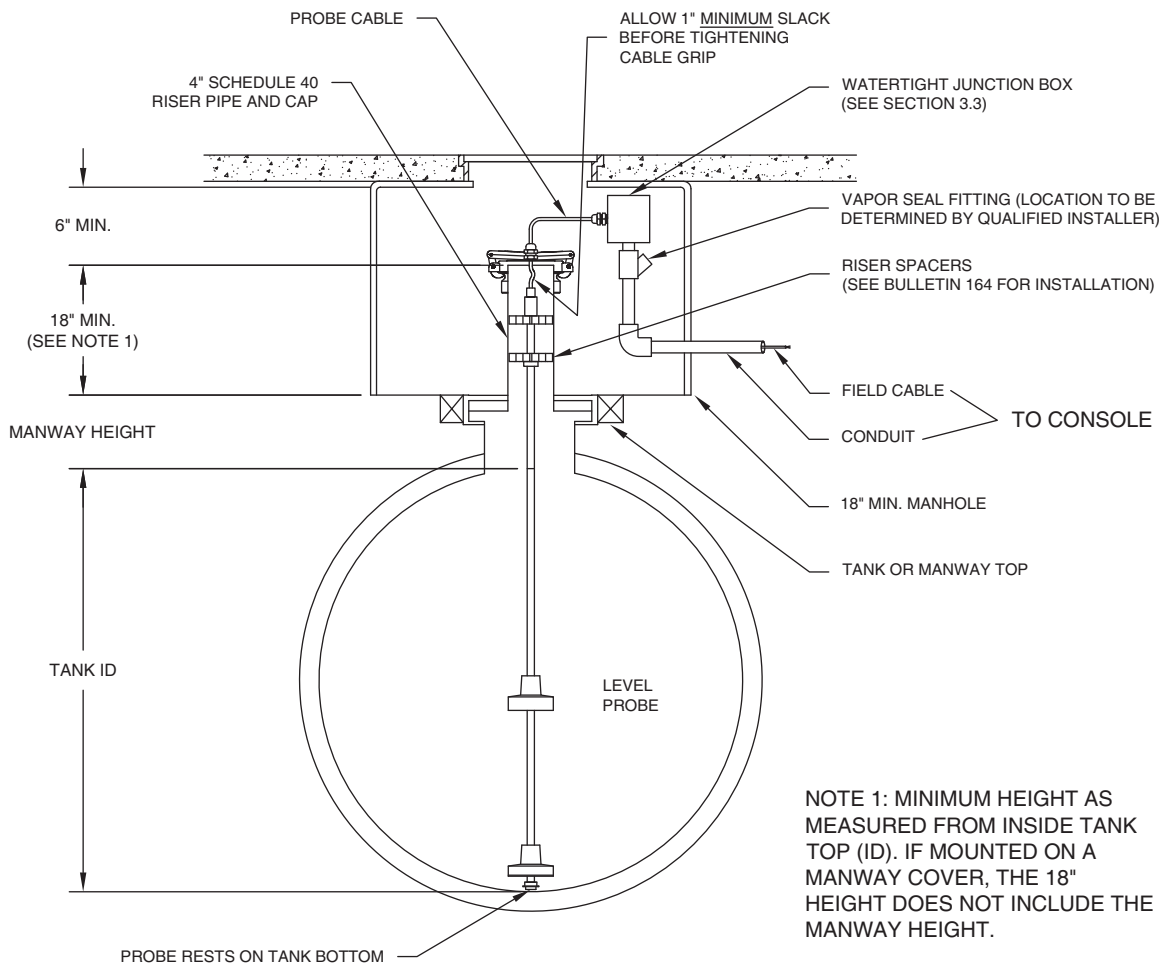

Figure 2-2 - Level Probe Installation - Underground Tank
Installing the magnetostrictive level probe underground is similar for both STEEL and FIBERGLASS tanks. Refer to Figure 2-2. The tank top must be equipped with an access MANHOLE containing a probe RISER PIPE and WATERTIGHT ELECTRICAL JUNCTION BOX supplied by the installer; the junction box should be sized to handle ONLY PROBE AND MANHOLE LEAK SENSOR cable splices for wiring to the console. The manhole should be at least 18 inches in diameter and a height suitable for the tank burial depth. The riser should be 4-inch pipe opening (2 and 3-inch for optionally available probes). The riser top should be fitted with a schedule 40 RISER PIPE cut to length to provide the minimum height of 18 inches shown measured from the TANK TOP (ID) to the probe's RISER CAP. The level probe's electronic housing will reside "inside" the riser. The riser top should be NPT male threaded and allow a clearance of at least 6 inches to the underside of the manhole cover. This will provide enough space for the riser cap and probe cable. For riser caps not supplied by Pneumercator, the cap must have a 1/2-inch NPT tapped hole for probe cable passage.